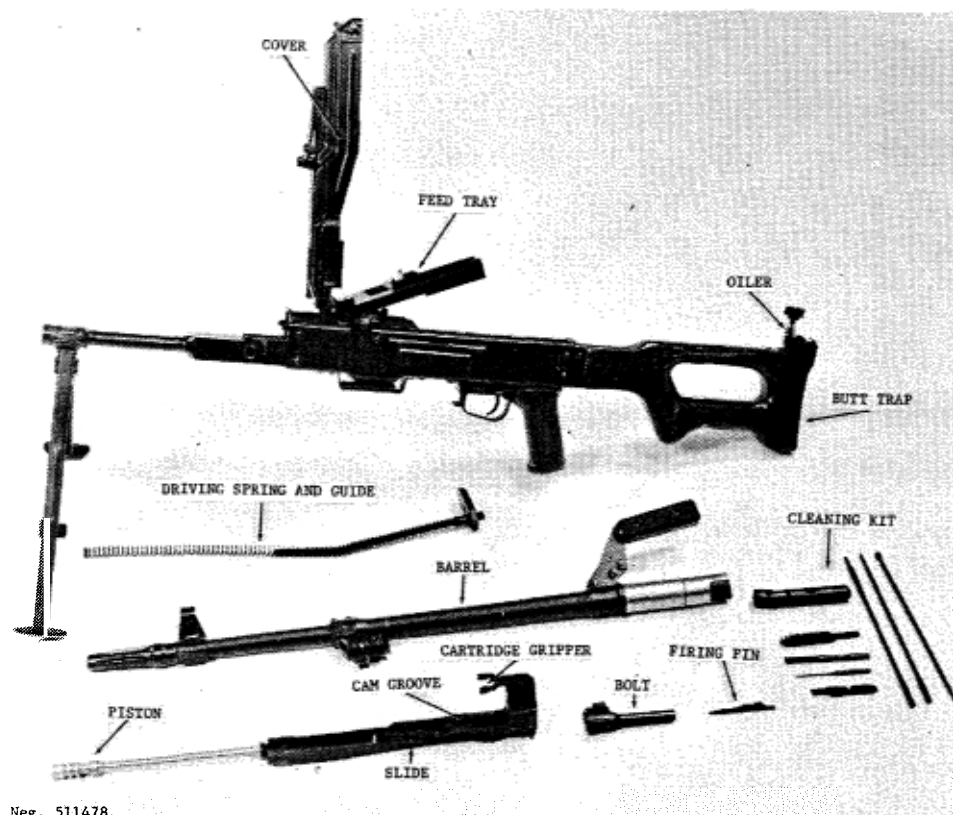

Figure 179. PK field stripped.
(1) Clear the gun (para 205g), but do not set at safe or lose the cover. Remove the barrel (para 205e).
(2) Press in the driving spring guide at the rear of the receiver; then ease the guide and spring upward and out of the gun. Grasp the bolt carrier by the cartridge grippers (fig 179) and pull the entire unit rearward, then upward until it comes free of the receiver. Lift the bolt and carrier up and out of the gun.
(3) Pull the bolt forward in the carrier, simultaneously twisting the bolt free of the cam until it comes out of the carrier. Lift the firing pin free of its recess and remove it. No further disassembly is necessary or desirable.
of the driving spring, goes forward. The bolt, which travels with the slide, drives a cartridge out of the feeder and into the barrel until the rim of the cartridge seats on the end of the barrel. The extractor snaps over the rim of the cartridge, and forward motion of the bolt then ceases. The bolt carrier continues forward and carries the firing pin with it. As the carrier continues forward, its cam (fig 179) rotates the bolt to its locked position. The firing pin, locked to the carrier, strikes and fires the cartridge. The forward movement terminates when the front of the bolt carrier strikes the receiver.